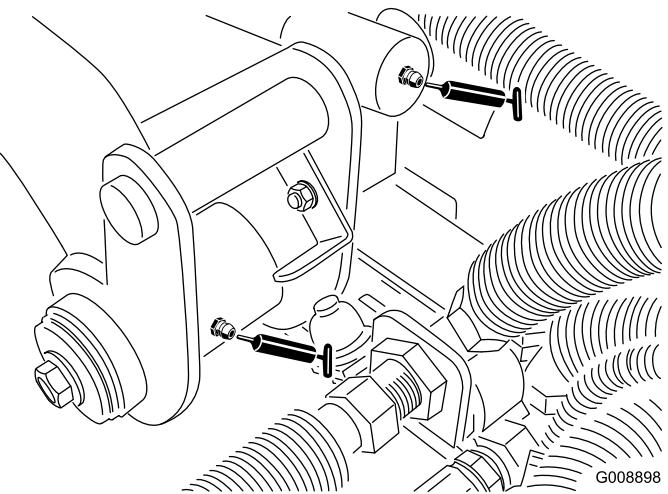

Figure 48
- Rear lift arm pivot and lift cylinder (2) (Figure 48)